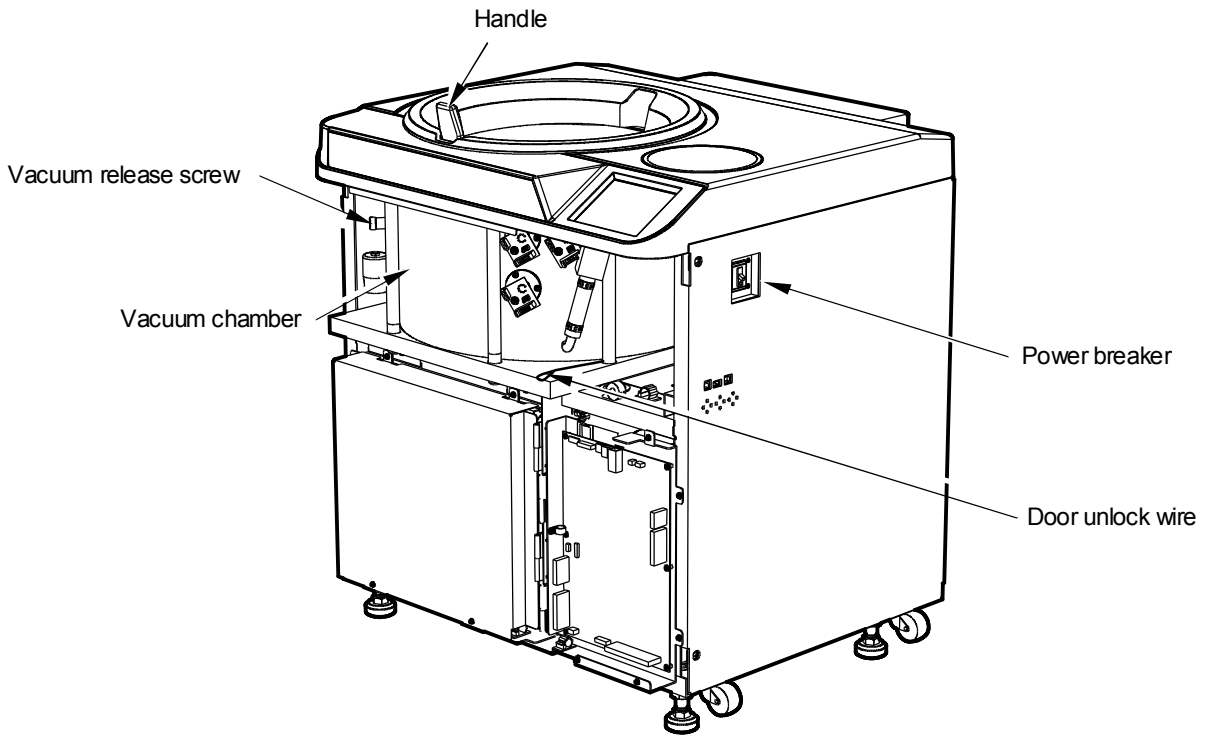

Fig. 3-5-2. Ultracentrifuge with the front cover removed
- (4) Open the air vent (by turning the vacuum release screw on the left of the vacuum chamber counterclockwise) to let air into the rotor chamber. When the pressure in the rotor chamber reaches atmospheric pressure, do not forget to tighten the vacuum release screw as it was before. (See Fig. 3-5-2.)
- (5) Pull the door unlock wire on the right of the vacuum chamber and, at the same time, push the door handle. Then the door opens. When opening the door, confirm that the rotor is not rotating. If it is still rotating, immediately close the door.